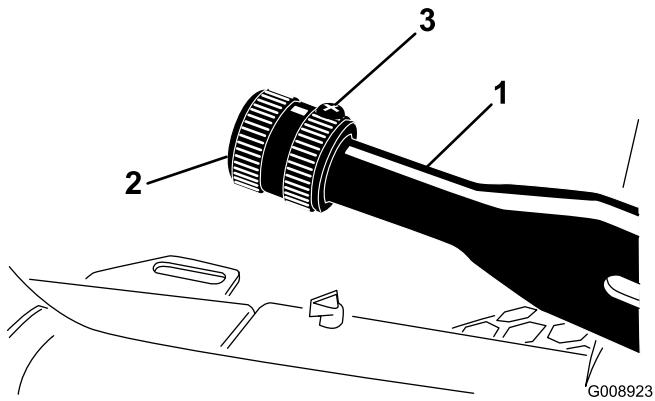

Figure 65
1. Loosen the set screw that secures the knob to the parking brake lever (Figure 65).